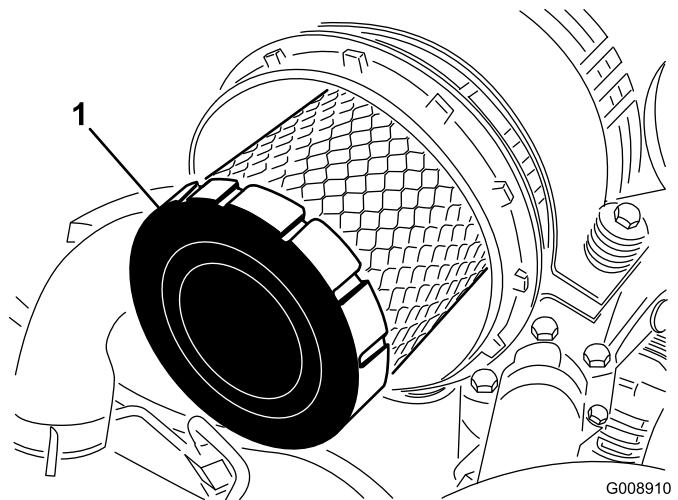

Figure 57
- Remove and replace the primary filter (Figure 57).